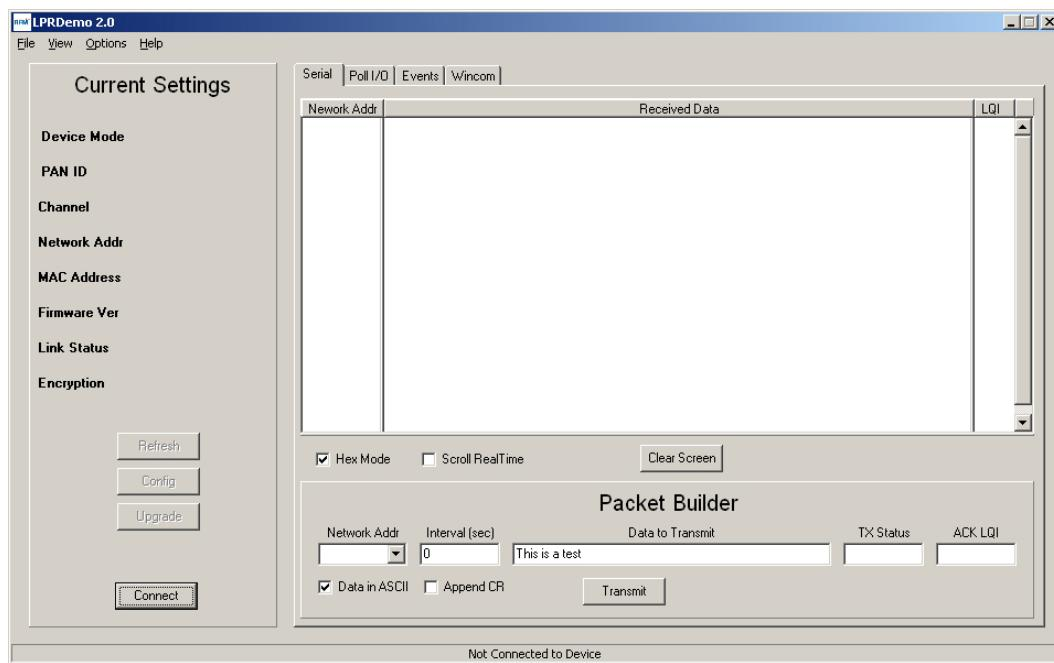

Figure 5.3.3
5. Copy LPRDemo2.exe from the *Programs* folder on the kit CD to a convenient folder on the PC. This program runs using ordinary Windows resources and does not require any framework installations, registry entries, etc., to run. Start LPRDemo2. The start-up window is shown in Figure 5.3.3.